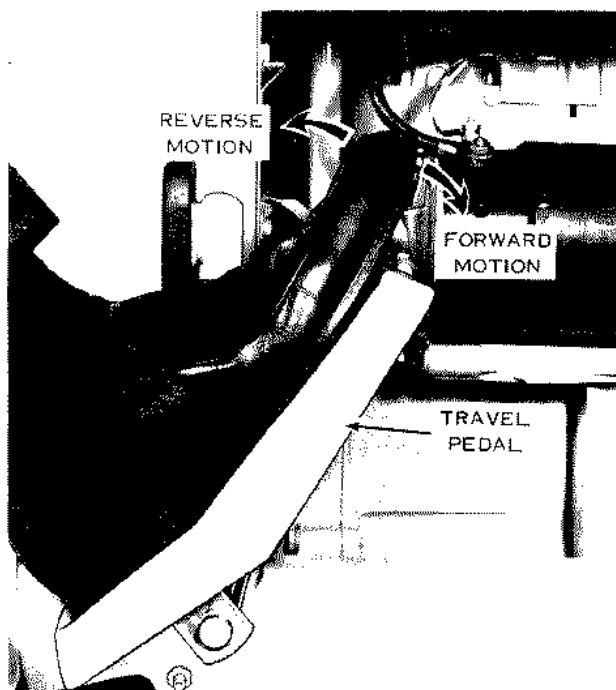

Figure 6
6. Foot Brake. Use when vehicle is being towed or free-wheeling; when moving transmission selector lever (12) from NEUTRAL or PARK position to DRIVE position.
7. Travel Pedal. Depress with toe of foot for forward motion. Depress with heel of foot for reverse motion. Provides instant braking and speed regulation. (See Figure 6.)
Release brake pedal, and slowly apply pressure to the travel pedal with toe of right foot for forward motion, or if reverse motion is desired, slowly apply pressure to travel pedal with heel of right foot. (See Figure 6.)